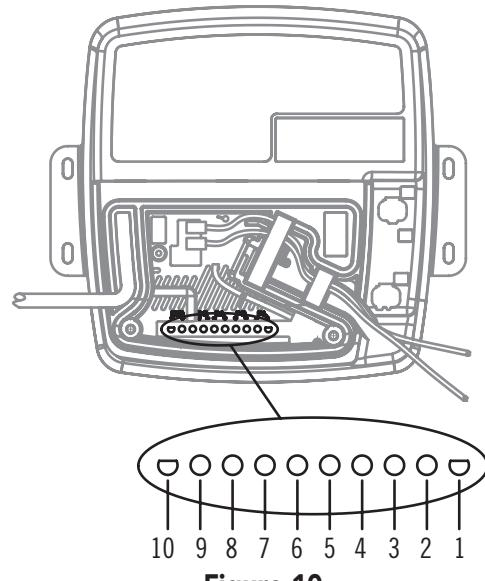

Figure 10
1. Connect individual speaker wires — or a 10-pin MATE-N-LOK adapter with attached wires — to the speaker outputs. Refer to Figure 10 and Figure 11 for connector identification.